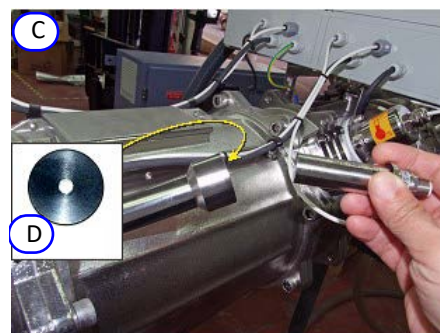
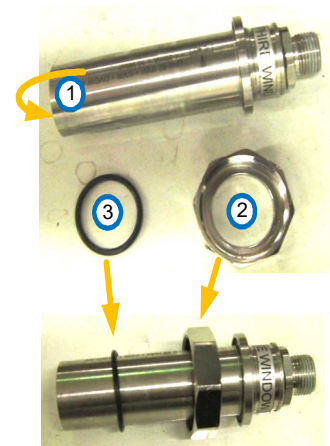

Figure 10-24: Removing a Sensor C 2 (Generic View)
Figure 10-27: Sensor, nut and washer
- Step 3.** Carefully pull the sensor out of the housing (**Figure 10-24**). If a pinhole (D) is present it slides out. The large nut comes off together with the sensor.
- Step 4.** Check the sensor's lens (1 in **Figure 10-27**) for condensation. If present, using a dry lens cloth, dry the lens thoroughly.
- Step 13.** Unpack the new sensor (**Figure 10-27**) and the sensor pinhole (**D** in **Figure 10-24**, if supplied).